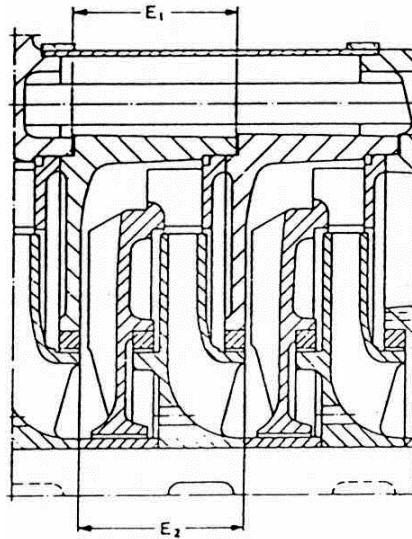

Fig. 69 - Measuring the stages
Before reassembly of ring section pumps, the axial face-to-face length "E" of each stage casing (108) and of the corresponding impeller (230) with stage sleeve (521) must be measured. Any discrepancy in lengths must be compensated by machining the stage sleeve (521) only, and the end result must be $E_1 = E_2$ taking the thickness of flat gasket (400.2) into account (see Fig. 69).